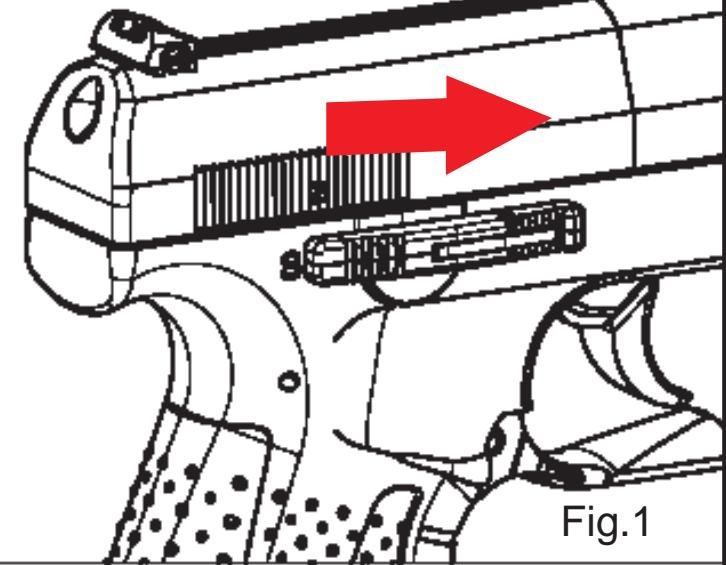

Fig. 1
- Push the safety forward, toward the muzzle end of the air pistol (Fig. 1). The safety is not "On Safe" unless it is pushed forward all the way and the RED dot and the "F" on the grip frame are not showing.